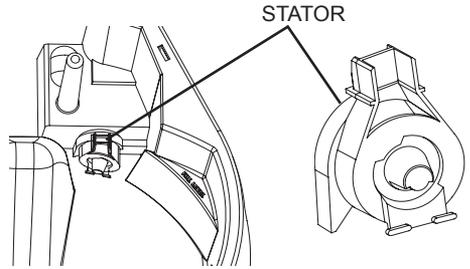

Fig. 9
3. Place the stator over the neck of the motor (Fig. 9). Make certain it is straight, (in the 12 o'clock position).